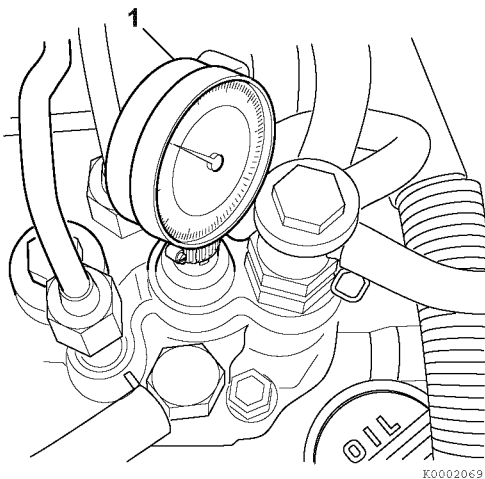

Figure 7-49
3. Note the reading on the dial indicator (1, **Figure 7-49**). If the reading is less than 2.5 mm (0.098 in.), the fuel injection timing is “retarded.” If the dial indicator reading is greater than 2.5 mm (0.098 in.), the fuel injection timing is “advanced”.